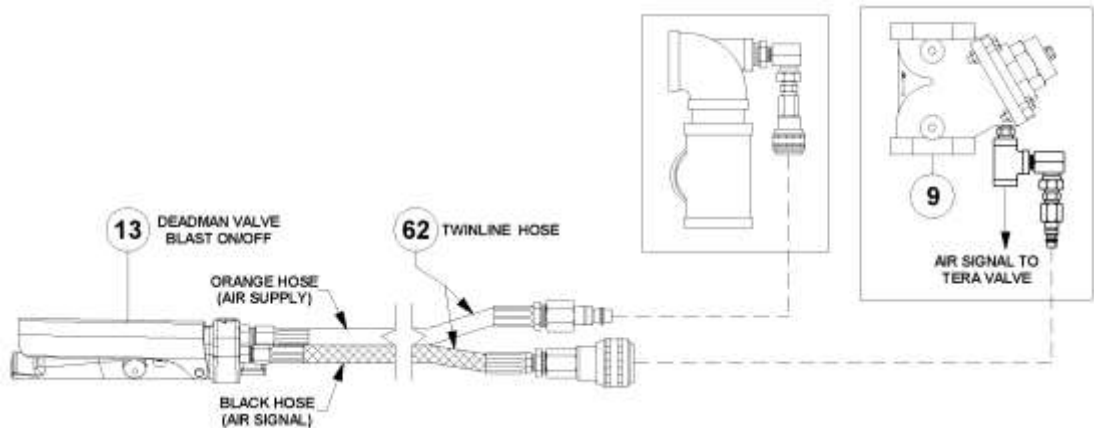

Figure 5.4 – Tera Valve™ Pneumatic Blast Control System
5.9.1. Pneumatic Deadman System: When the pneumatic deadman lever (#12) is pressed down, air supply from the orange hose of the twinline hose (#15) flows into the black hose. Air flows through the black hose to the signal ports of the auto air valve (#9) and Tera Valve (#14) causing both to open. When the deadman lever is released, the air signal is cut off and the remaining air vents from the deadman and the quick exhaust valve (#49). The quick exhaust valve provides a quicker blast shutdown like the function of the control valve (#20) in an electric system. See Figure 5.4 and the drawing in Section 9.1. **Note:** The quick exhaust valve (#49) is not required for electric units or systems with abrasive cutoff.